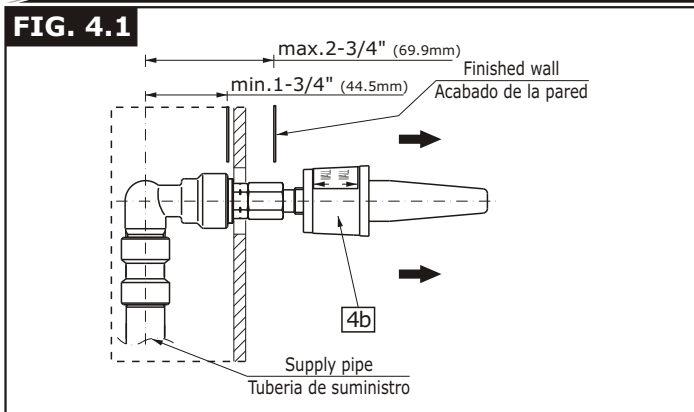

FIG. 4.1
- ➔ Remove cap protector (4b) by turning and pulling – see fig. 4.1.